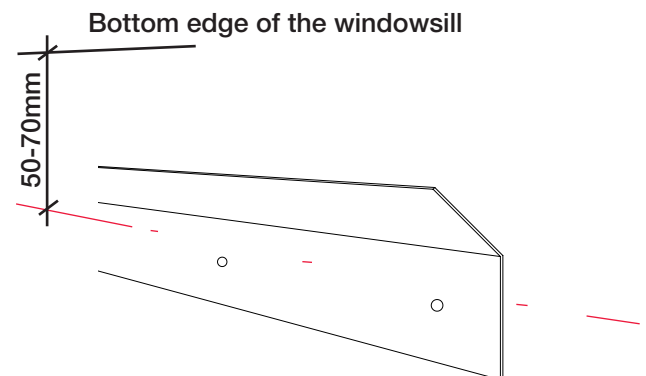

Figure 2 Mounting rail and markings.
2. Screw the mounting rail in place (Fig. 2). The rail is supplied with the unit and is suited to the length of the unit. Height wise, the screw holes in the rail should line up with the markings on the wall. Lengthwise, the rail's centre point should be adjusted as per the drawing, e.g. below the middle of the window.